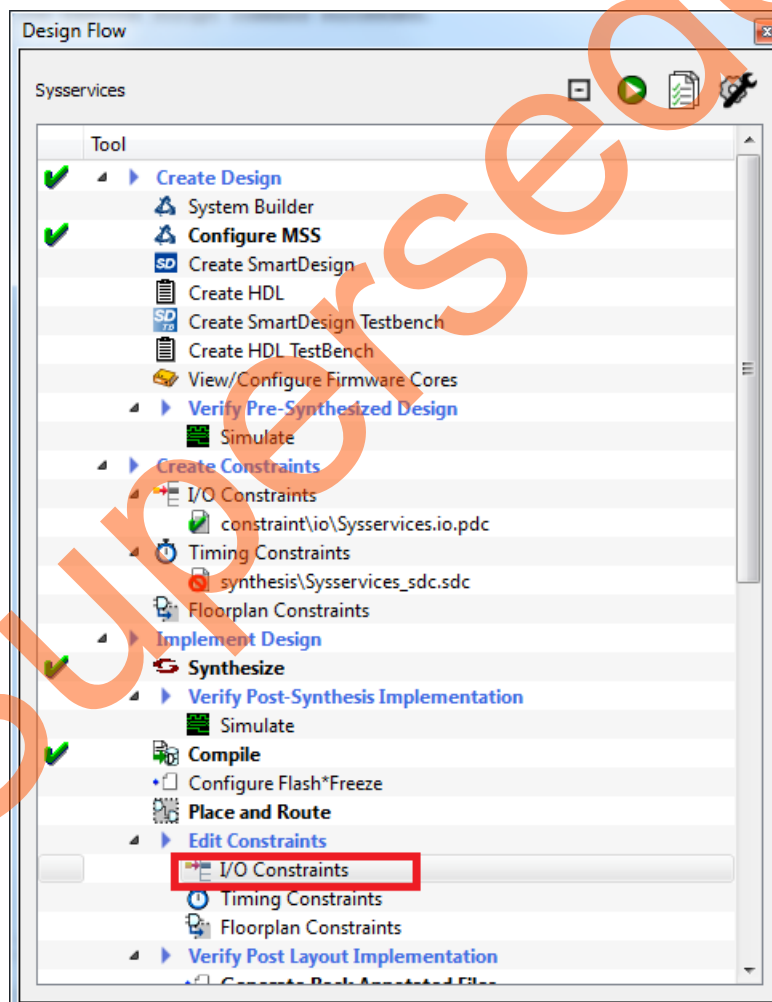

Figure 25 • Design Flow Window
1. Double-click **I/O Constraints** in the **Design Flow** window as shown in Figure 25. The **I/O Editor** window is displayed after completing **Synthesize** and **Compile**.